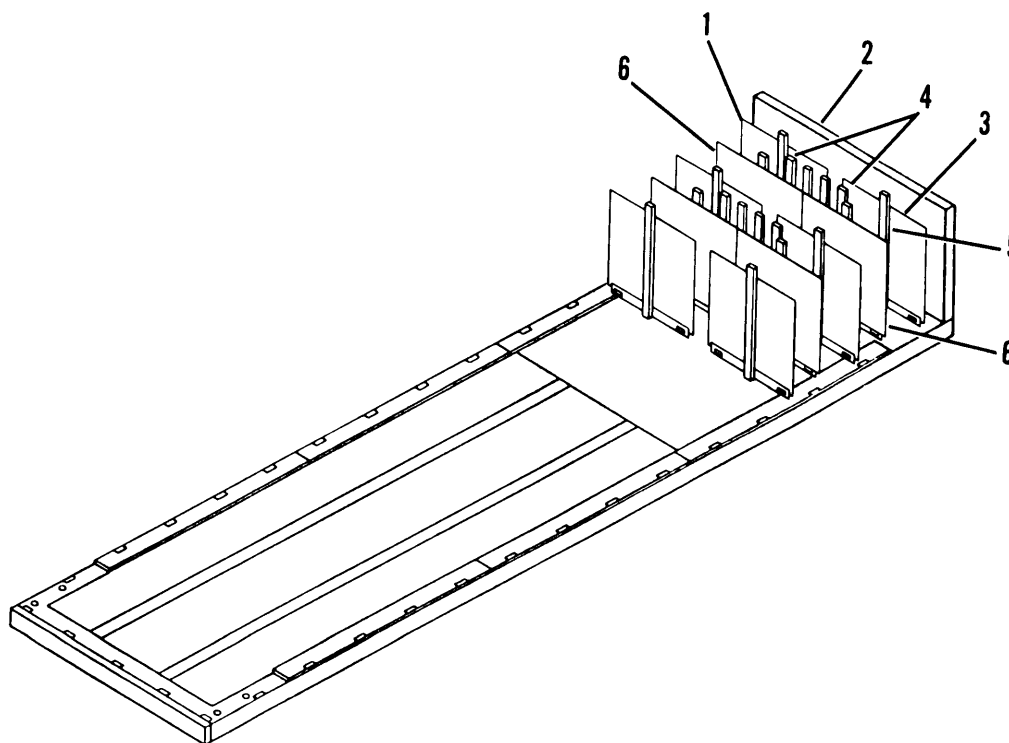

Figure 2-24. Stacking Side Panels and Stakes
- (2) Remove rear panels first. Stack left panel (1, fig. 2-24) with the flat side against the left side of the bulkhead (2). Stack right panel (3) with the flat side against the right side of the bulkhead (2).
- (3) Remove corner stakes (4). Place each stake (4) along the left side of the panel support (5).
- (4) Remove the first left and right side panel (6). Stack left side rack, with flat side facing out, against left rear panel (1). Stack right side panel, with flat side facing out, against right rear panel (3).